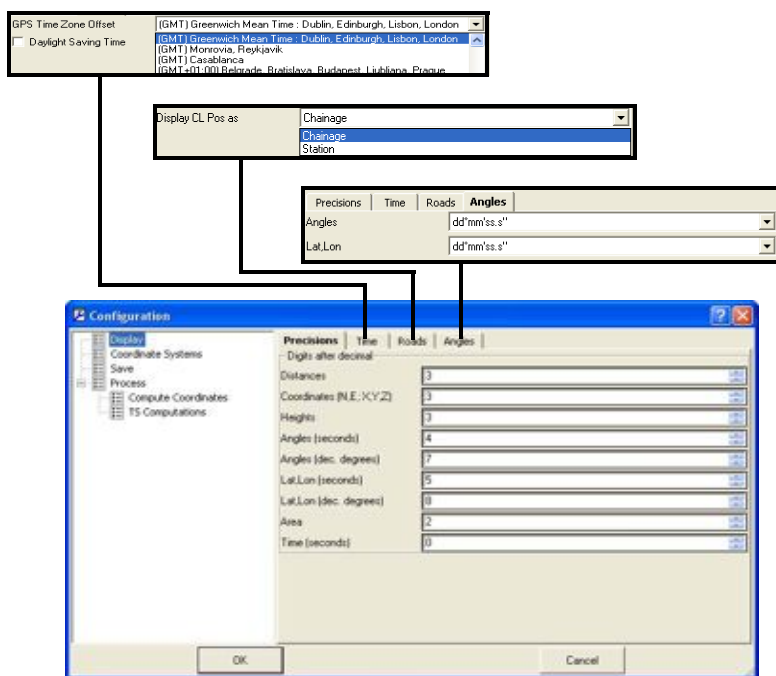

Figure 3-12. Select Display Parameters
2. In the *Display* pane, select the following parameters for displaying information (Figure 3-12 on page 3-16). Click **Ok** to save and exit.